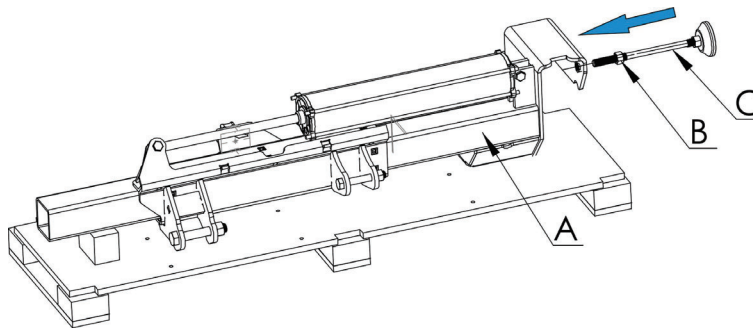

Fig.4
As Fig.4, Install Support foot C into screw M16 (B), screw C into A completely, keep screw B loose till A is installed onto the main body.